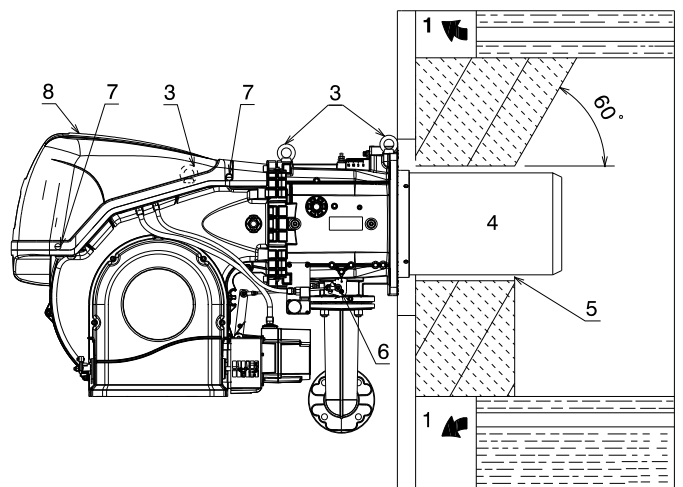

Fig. 15
For boilers with front flue passes 1) (Fig. 15) or flame inversion chamber, a protection in refractory material 5) must be inserted between the boiler fettling 2) and the flame funnel 4).
For boilers with a water-cooled front piece, a refractory lining 2)-5)(Fig. 15) is not necessary, unless expressly requested by the boiler manufacturer.
Prepare a suitable lifting system using rings 3)(Fig. 15).
- Fit the heat insulation supplied onto the blast tube 4)(Fig. 15).